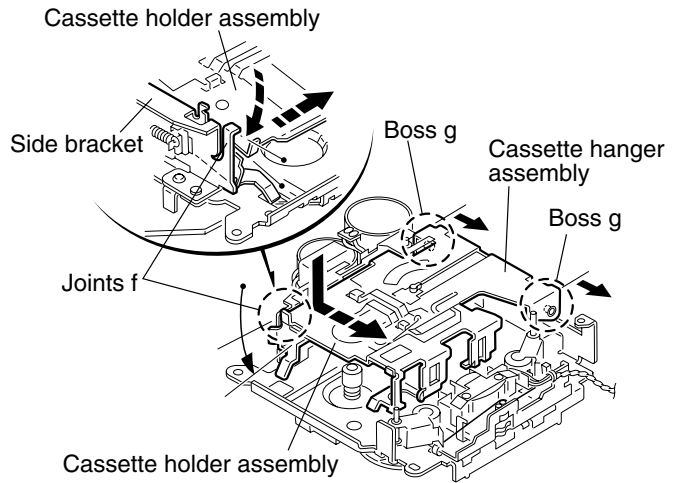

Fig.6
**■ Removing the cassette hanger assembly / cassette holder (See Fig.6 to 9)**